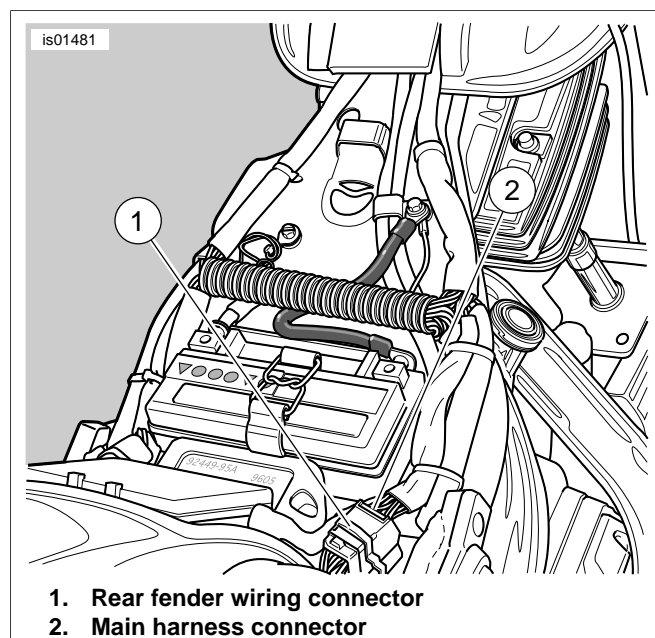

Figure 1. Typical Rear Fender Lighting Connector (Softail Shown)
2. See Figure 1. Locate the rear wiring harness coming out of the rear fender in the area underneath the seat. Disconnect the rear fender wiring connector (1) from the main harness connector (2).